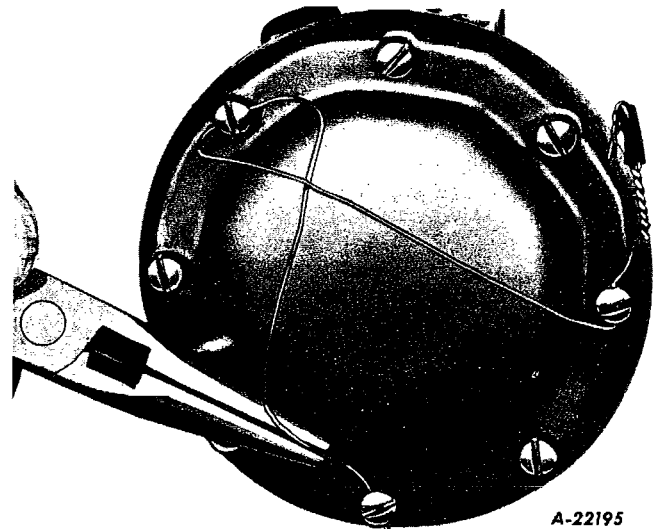

Fig. 63
- Fig. 63 - Remove the seal and wire from the three governor diaphragm cover retaining screws.
Note: When inserting the cover screws, observe the three screws that are drilled for the seal wire. Space drilled screws as shown in Fig. 63. Install the seal wire and seal.